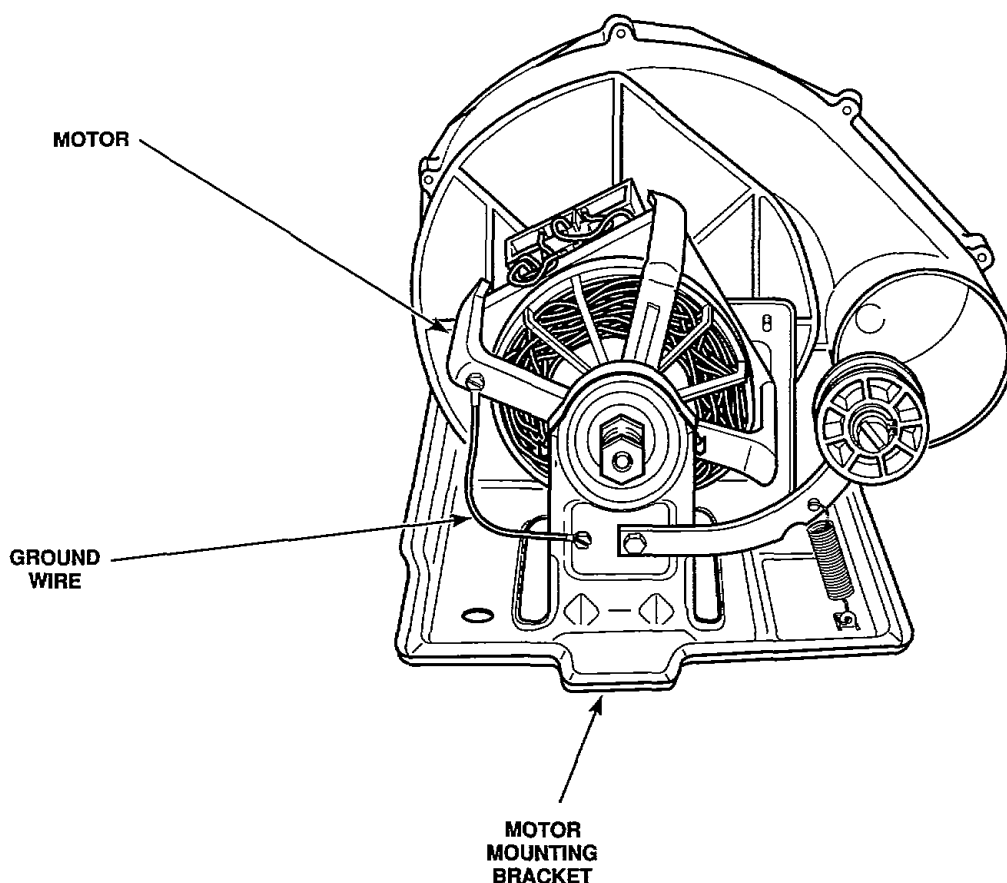

Figure 1
1. MOTOR MOUNTING BRACKET TO MOTOR (Gas and Electric Models — *Figure 1*).